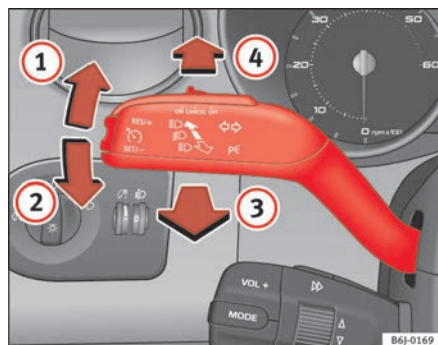

Fig. 57 Indicator and main beam headlight lever
- Move the lever all the way up ⇒ fig. 57 ① to indicate **right**, and all the way down ② to indicate **left**.
- Press the lever forward ⇒ fig. 57 ④ to switch on the main beams.